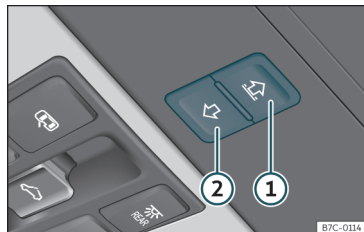

Fig. 118 On the interior roof lining: switches for the sun blind.
Buttons **>>> Fig. 118 (1)** and **(2)** have two levels. The first level opens or closes the sun blind fully or partially.
- *Sun blind*: within approximately 5 seconds of having activated the anti-trap function, press button >>> **Fig. 118** ② until the sun blind closes completely.